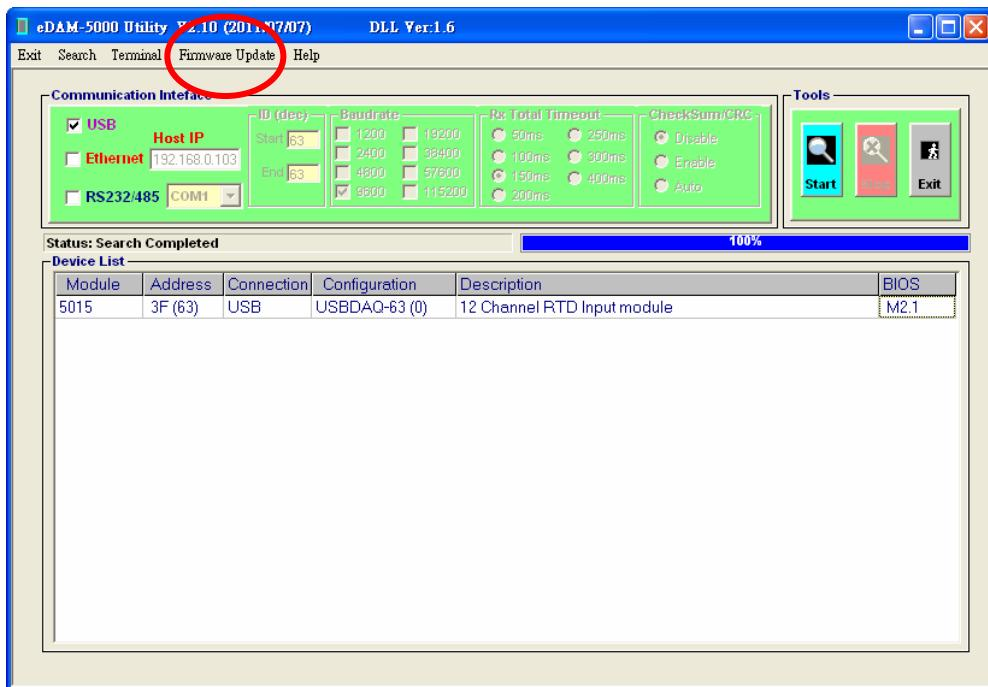

Figure 15-4
4. Click “Firmware Update” in the menu bar (see Figure 15-4)